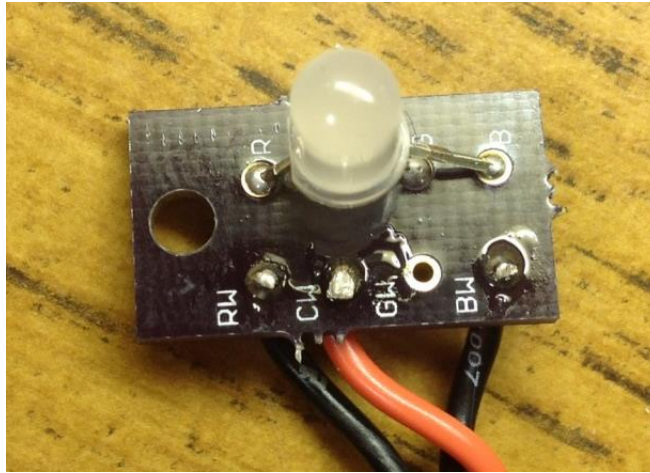

Figure 6.8
8. Attach the wire coming from the “5V” pad on the SS PCB to the pad labeled “CW” on the LED PCB. Now, choose what two colors you want to indicate your different presets (RW = Red, GW = Green, BW = Blue) and attach the wire coming from “LED1” on the SS PCB to one and the wire coming from “LED2” on the SS PCB to the other. As you can see in the picture, I chose Blue (BW) and Red (RW). (Figure 6.8)